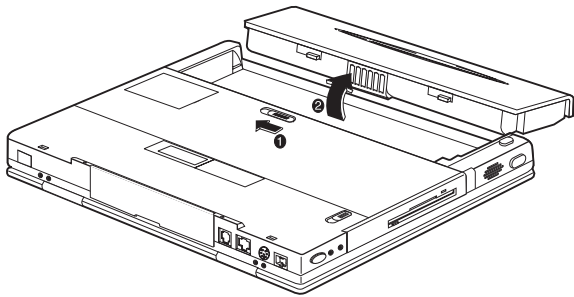

Figure 5-2. Removing the Battery
The battery is located on the bottom of the system unit (Figure 5-2).
4. Remove the battery by lifting it up and away from the system unit (Figure 5-2).
1. Remove the Battery (Figure 5-2).